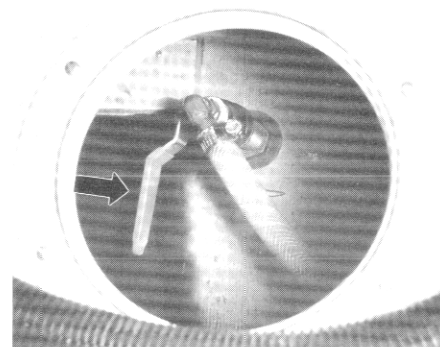

Figure 18
-  **CAUTION:** To prevent damage to the boat, close all seacocks before leaving the boat. See figure 18. Make sure the "Auto Bilge" switch is in the "On" position.